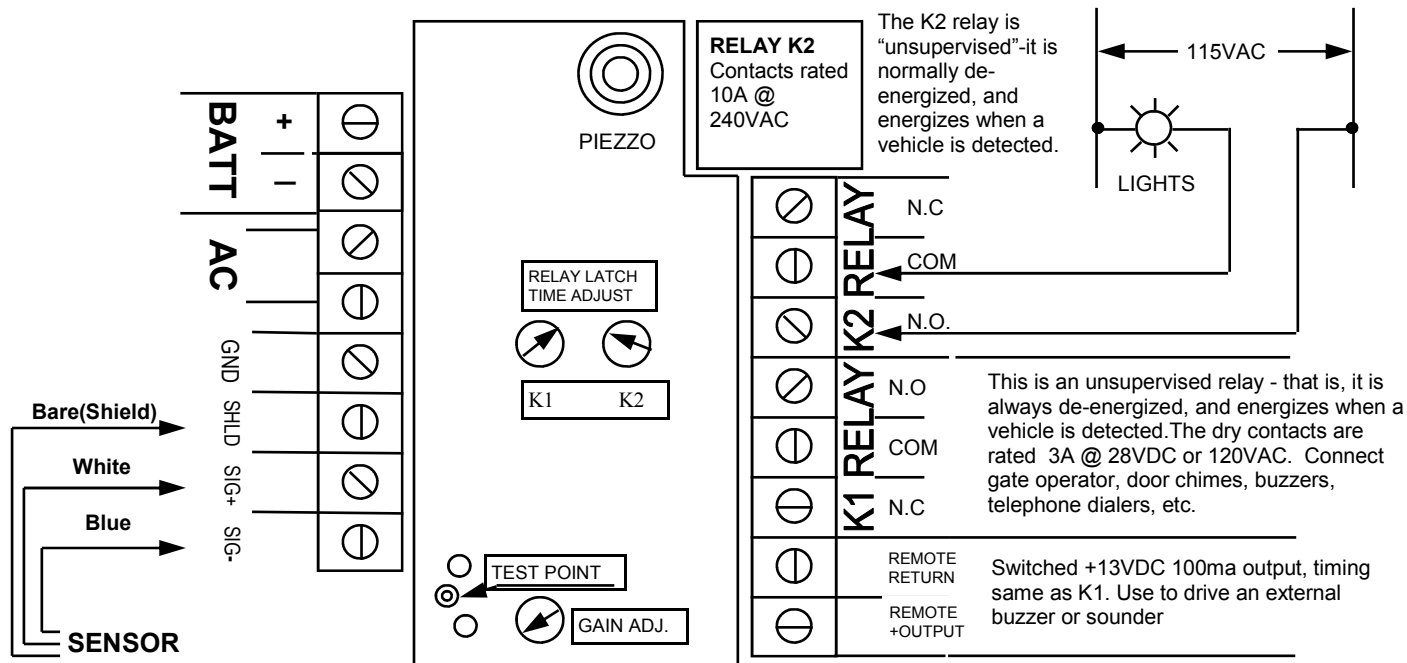

Figure 1 - Model D-373
1. Connect AC Power to the Processor using the step-down transformer (120VAC to 12VAC) provided. See Figure 1 for connection points.
5. Adjust the latch time of the K1 and K2 relays as required, using the "MAX TIME" adjustment (see Figure 1). The adjustment of the K1 latch time also controls the duration of the on-board buzzer as well as the "REMOTE OUTPUT-REMOTE RETURN" voltage.